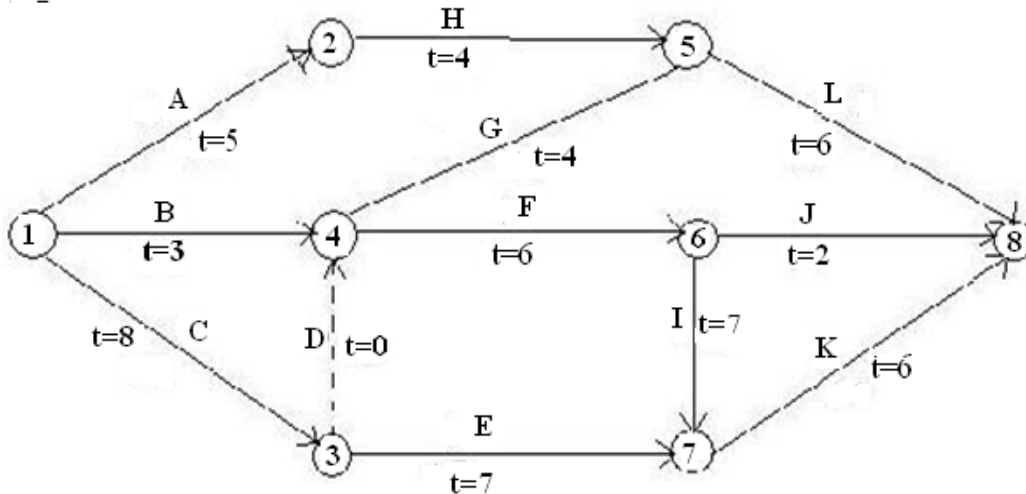

Figure 1
4. The network of a certain project is shown in Figure.1 with the estimated durations of various activities. Determine the following: i) Earliest event time and latest event time ii) Earliest and latest start and finish times of each activity. iii) Total and free floats for each activity. iv) Critical path for the network (14M)